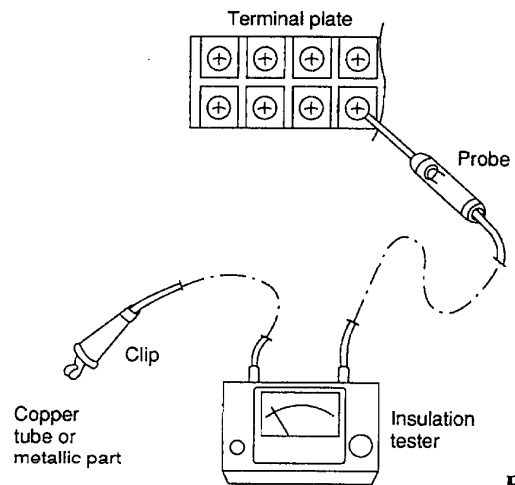

Fig. 2
(2) Indoor Unit
Clamp an aluminum plate fin or copper tube with the lead clip of the insulation resistance tester and measure the resistance by placing a probe on ⑥, and then ⑦ on the terminal plate. (Fig. 2)
(3) Outdoor Unit
Clamp a metallic part of the unit with the lead clip of the insulation resistance tester and measure the resistance by placing a probe on ①, and then ② on the terminal plate. (Fig. 2)
(4) Measurement of Insulation Resistance for Electrical Parts